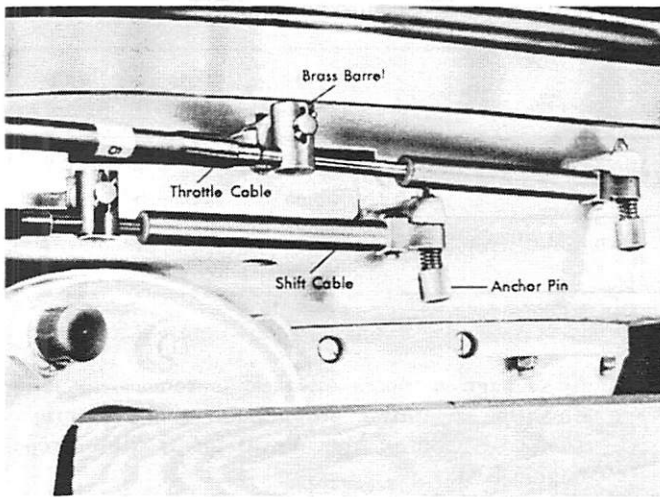

Figure 10. Cable Adjustments
6. If necessary, readjust brass barrel on cable to accomplish correct final adjustment. (Figure 10)
3. Align brass barrel on throttle cable so that distributor is held lightly against idle stop screw with cable installed. (Figure 10)